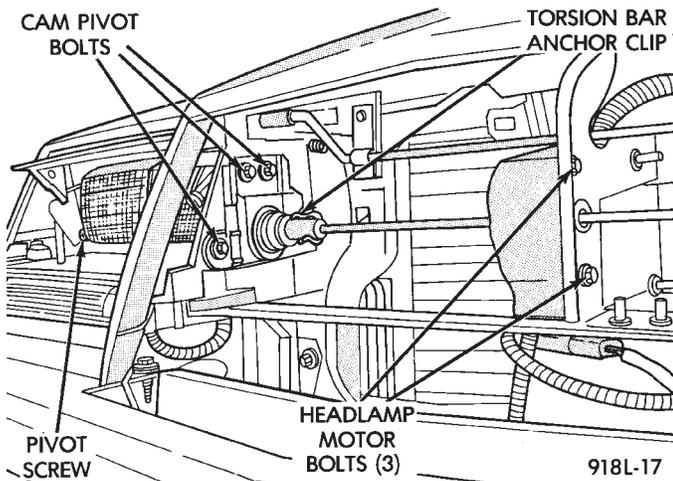

Fig. 15 Torsion Bar Anchor Clips
- (7) Remove torsion bar anchor clip (Fig. 15).
- (4) Remove both torsion bar anchor clips (Fig. 15).